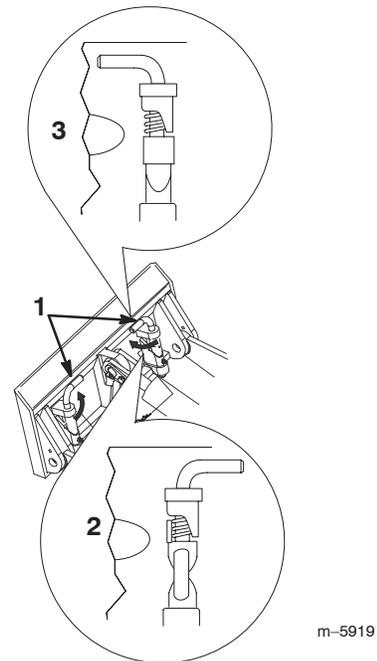

Figure 24
- Engage the quick attach pins, ensuring that they are fully seated in the mount plate (Fig. 24).